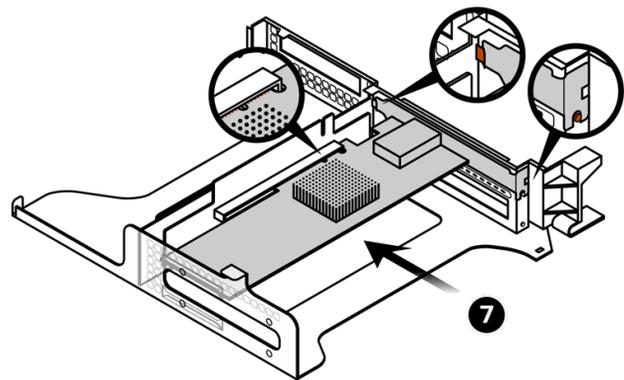

Figure 18-4. Inserting the HBA
7. Slide the HBA between the plastic guides and into the slot. See Figure 18-4. Make sure that you do the following: